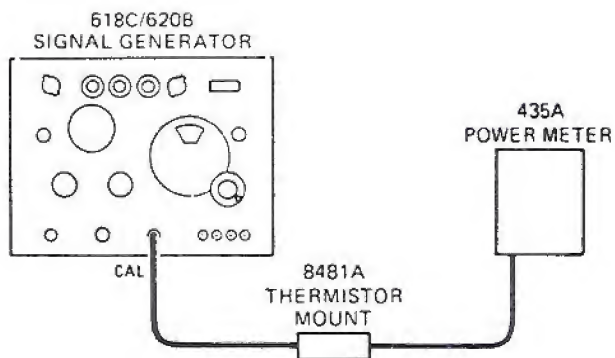

Figure 5-1. Setup for Testing RF Output Accuracy
a. Connect Signal Generator in test setup shown in Figure 5-1.
a. Connect Signal Generator in test setup shown in Figure 5-1 but connect Thermistor Mount input to RF OUTPUTS UNCAL connector.